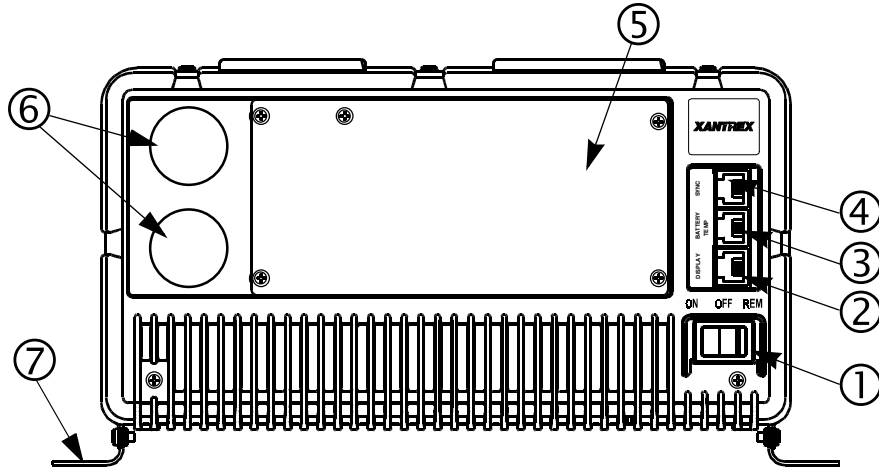

Figure 2 AC End View (Blank Panel Option)
- Blank access panel: one hardwire output circuit. See Figure 2.